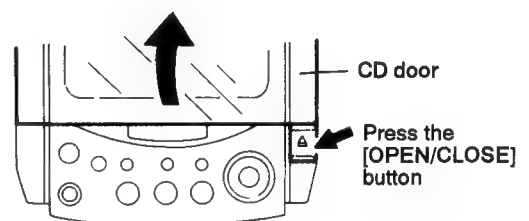

Fig. 5-4
2. After turning the body back to its initial position, open the CD door while pressing the upper [OPEN/CLOSE] button (See Fig. 5-4).